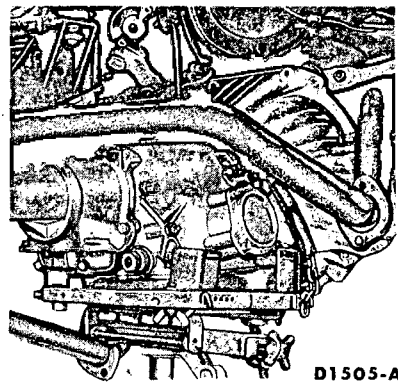

FIG. 34—Transmission Mounted on Jack
17. Remove the five converter housing-to-engine attaching bolts. Lower the transmission (Fig. 34), and remove it from under the car.
1. With the converter properly installed, place the transmission on the jack (Fig. 34). Secure the transmission to the jack with the safety chain.